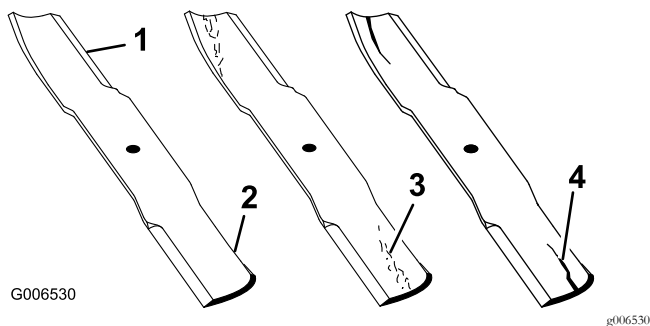

Figure 54
1. Inspect the cutting edges (Figure 54).
4. If you notice any cracks, wear, or a slot forming in this area, immediately install a new blade (Figure 54).